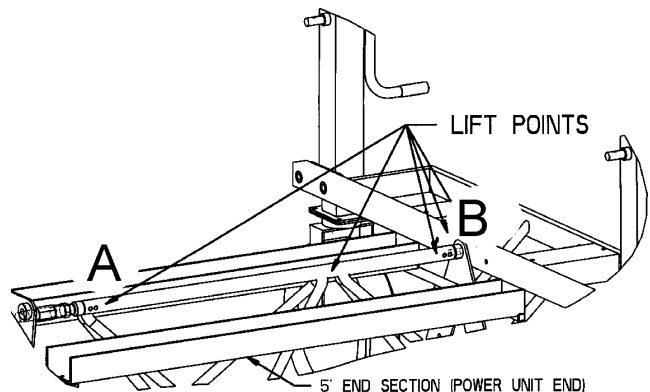

Figure 11. Lifting Points
- ⇒ Care should These lifting positions are the same for both ends. Attach a lifting strap to one of these points. The safety snap pins in the top turnbuckles of the truss sections are not designed to carry the weight of the machine during lifting. The top of the truss sections should always be kept in compression. Lifting with straps or forks from center sections may damage the machine or bend these pins. Figure 11 shows lifting points A & B. Lifting point "B" can be used with any screed length while lifting point "A" should only be used for screed lengths longer than 32 feet.